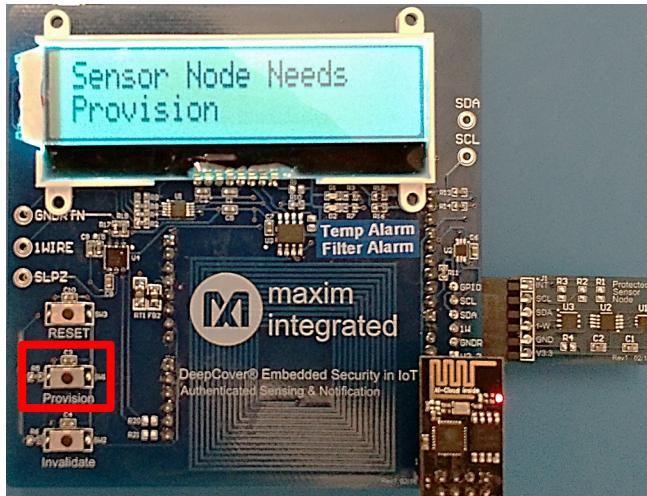

Figure 15. Sensor Node needs Provision button.
6. A prompt displays if the Sensor Node has never been provisioned. Press the **Provision** button to perform the procedure and continue (**Figure 15**).